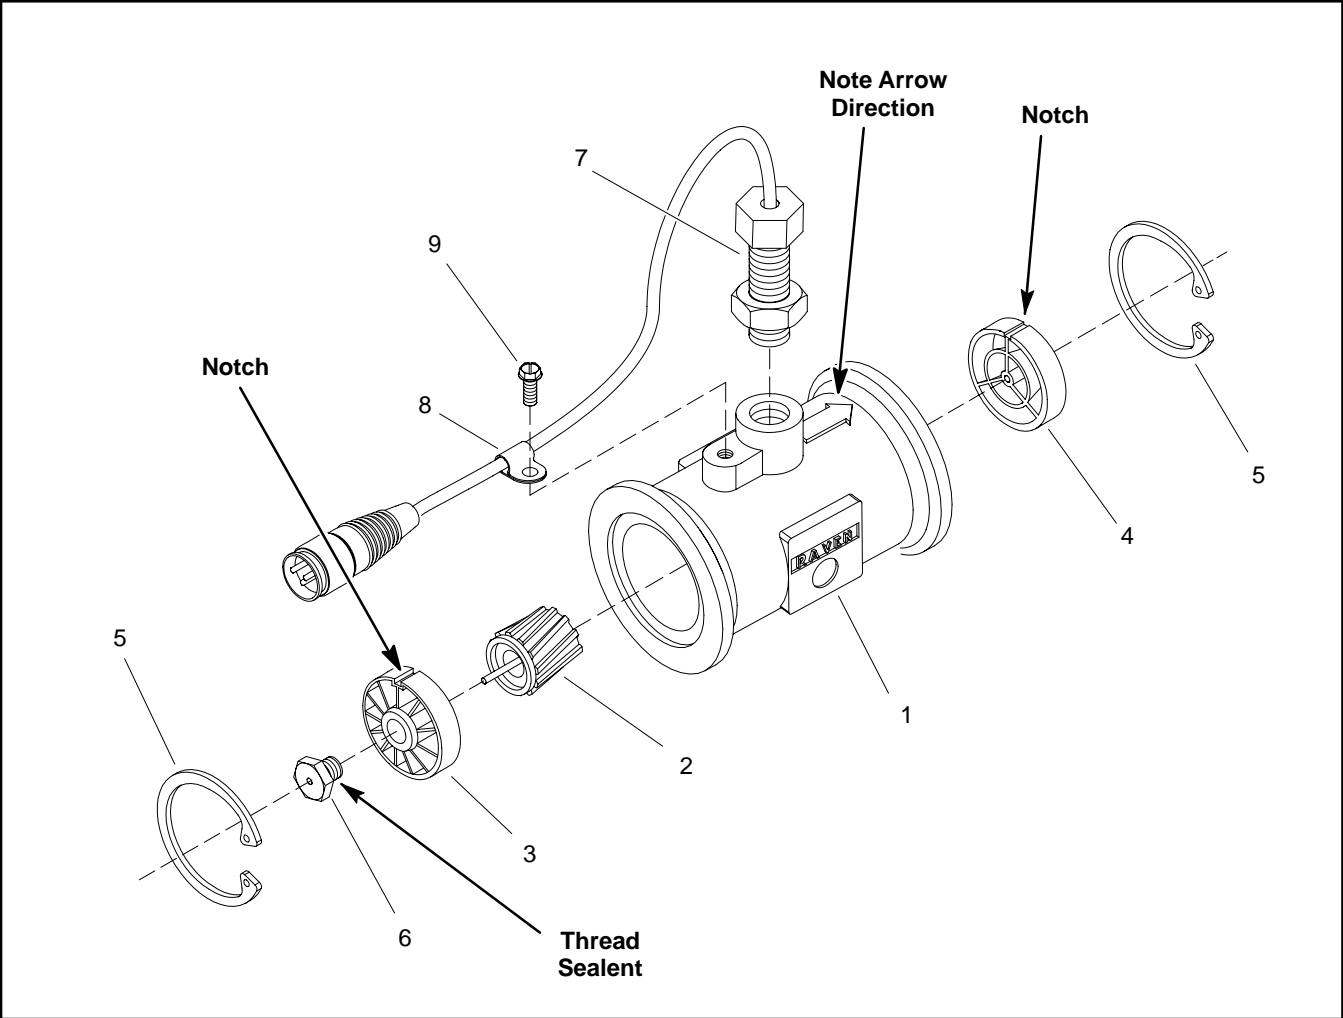

Figure 42
Disassembly (Fig. 42)
2. Disassemble flowmeter as required using Figures 42 and 44 as guides.
3. Clean rotor (item 2), both hubs (items 3 and 4) and flowmeter body to remove any metal filings, spray chemicals or other materials.
Assembly (Fig. 42)
1. Assemble flowmeter using Figures 42 and 44 as guides. Check the following items during flowmeter assembly.
C. When installing hubs (items 3 and 4) into housing, make sure to align locating notch on each hub with boss in housing bore.
D. If sensor (item 7) was removed from flowmeter body, thread sensor into housing so it lightly bottoms in housing. Secure sensor in position by tightening jam nut.